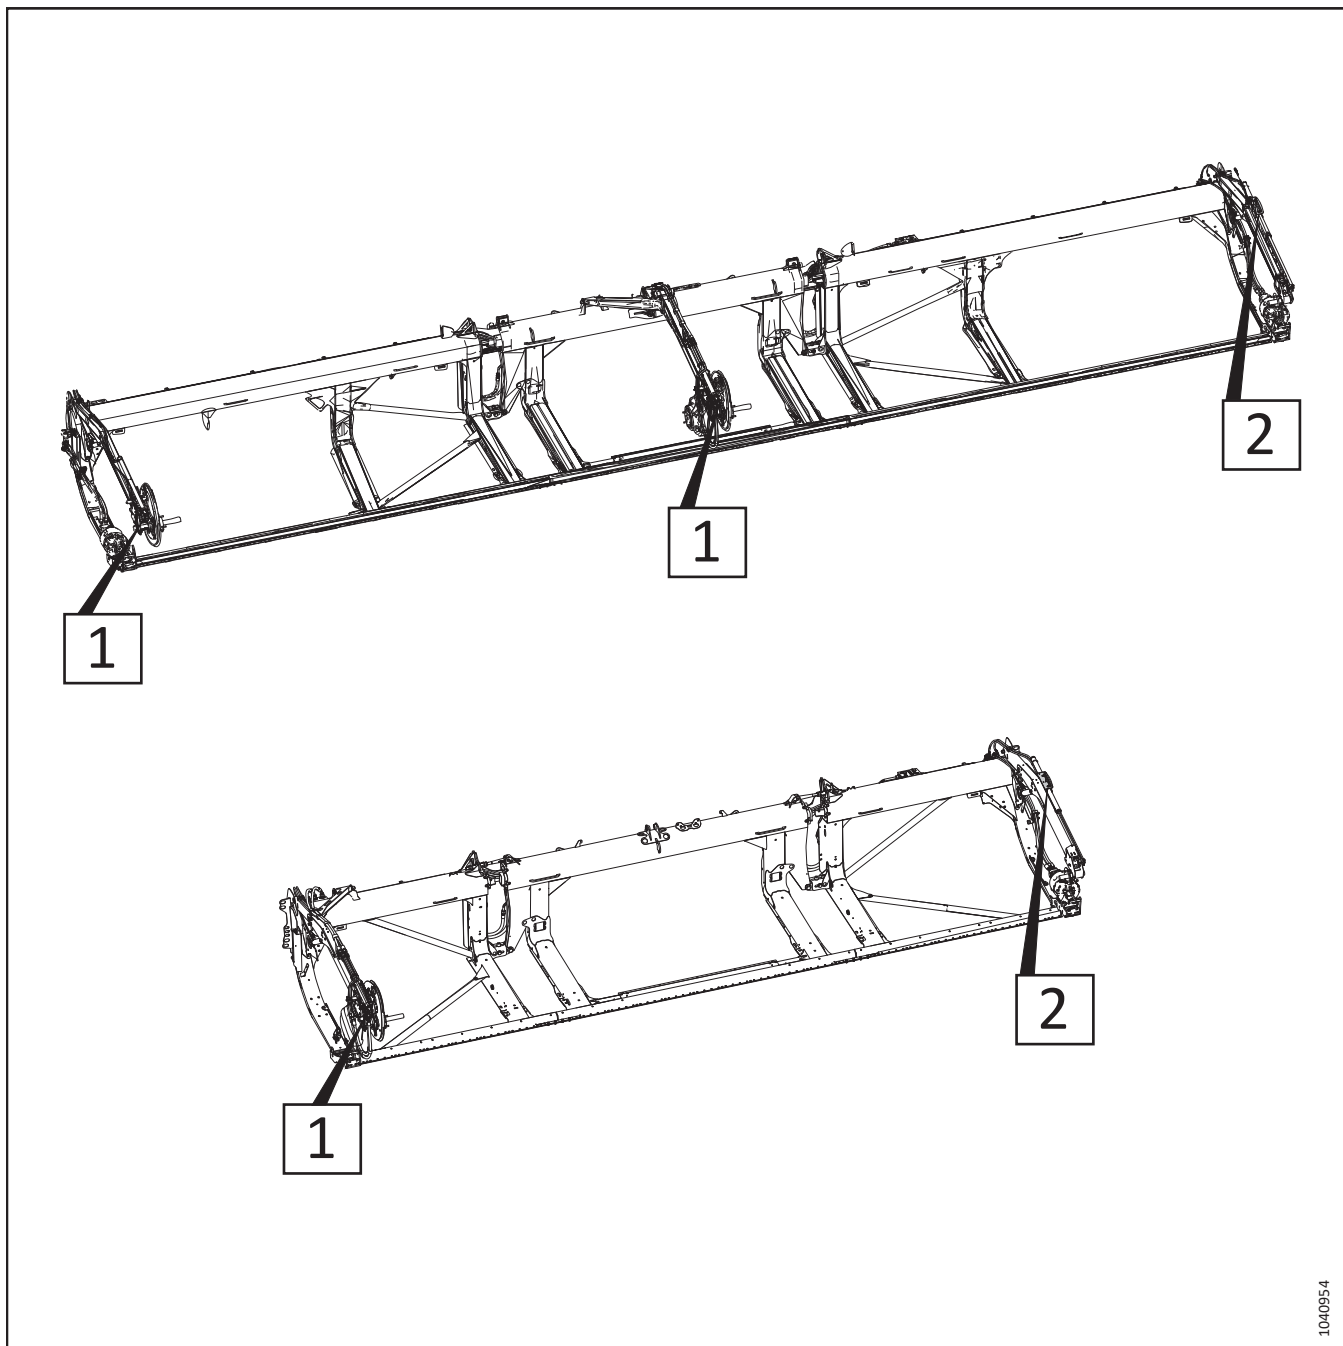

Figure 3.343: Adjustable Fore-Aft Cylinders – Procedure Reference Numbers
5. Refer to Figure 3.343, page 240 to determine the fore-aft cylinder adjustment procedures for your header type. The number on the illustration refers to one of the following procedures: